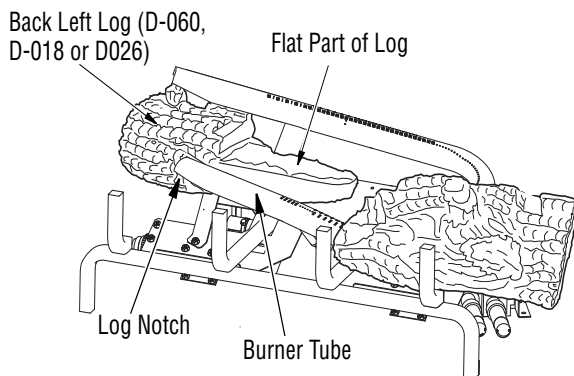

Figure 25 - Installing Back Left Log
2. Find the back left log (LMF24GTA/B or LMF24MOA/B models: D-060, LMF30GTA/B or LMF30MOA/B models: D-018, LMF36GTA/B or LMF36MOA/B models: D-026). See *Figures 25, 25A,*
and 25B. Figure 25A shows how the log must fit against the end of the burner. Figure 25B shows how the notch in log fits against the vertical portion of the burner tube. Place this log on the base assembly by inserting it from the left side as shown in Figure 25. You will need to twist the log slightly to get it to fit against the burners properly. It will rest even with the back edge of the pan.